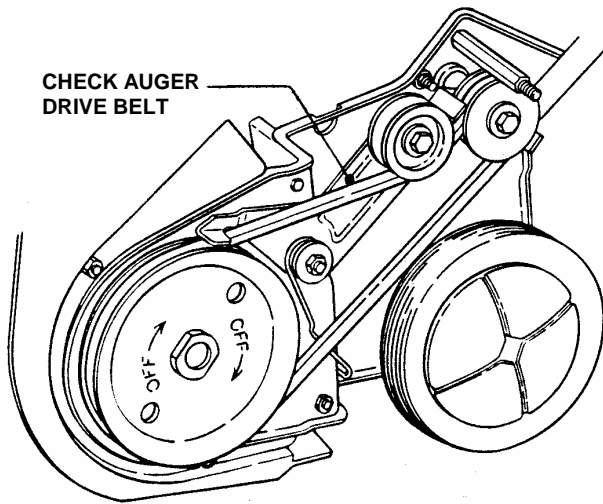

FIGURE 3.1
1. Visually check engine drive belt for cracking, fraying, severed or exposed belt strands. Replace worn belt before operating snow thrower. See Figure 3.1